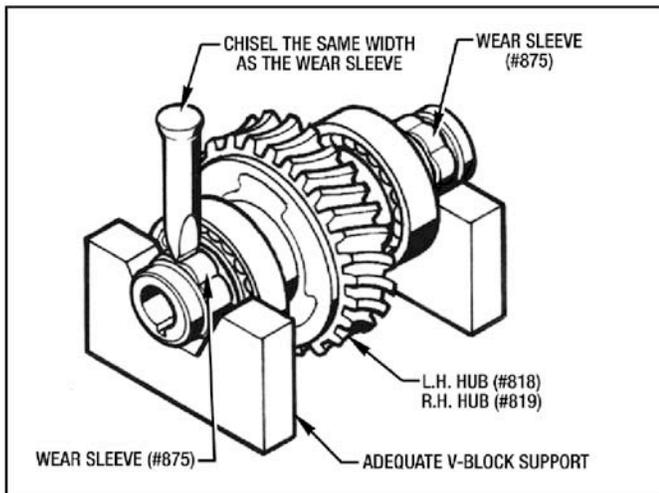

Figure 7.3 - Removing Wear Sleeves (#875)
(See Figure 7.3)
- a. Set the Hub (#818) or (#819) in an appropriate V-Block support as shown in Figure 7.3.